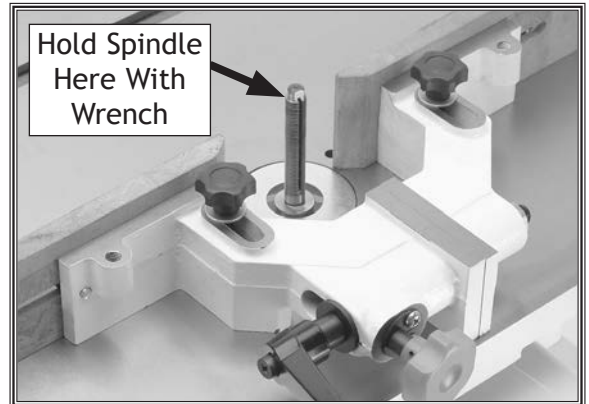

Figure 12. Location for wrench on spindle.
13. Place an 8mm open-end wrench on top the spindle (see **Figure 12**).